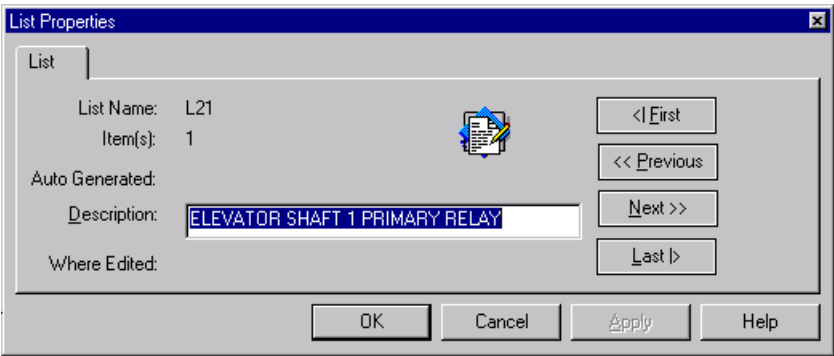

Figure 9-20. Elevator Recall Description Property
1. Click on the Elevator Recall tab at the bottom of the List Window. Double click on the appropriate Elevator Recall list, and a screen similar to the one shown in Figure 9-20 appears.